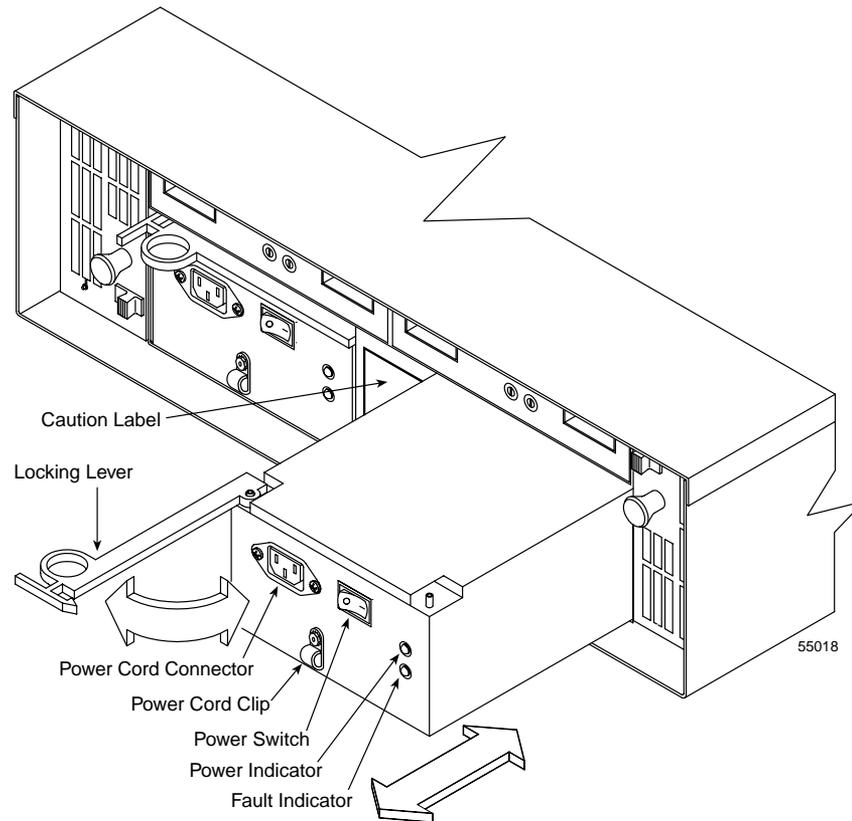

Figure 7-4 Removing and Installing a Power Supply Canister
4. Read the yellow “Caution” label on the rear of the drive enclosure between the power supply canisters (Figure 7-4).
8. Wearing antistatic protection, grasp the pull-ring on the locking lever and squeeze it to unlatch the lever (Figure 7-4).
16. Check that the Power indicator on the new canister is on and the Fault indicator is off (Figure 7-4).